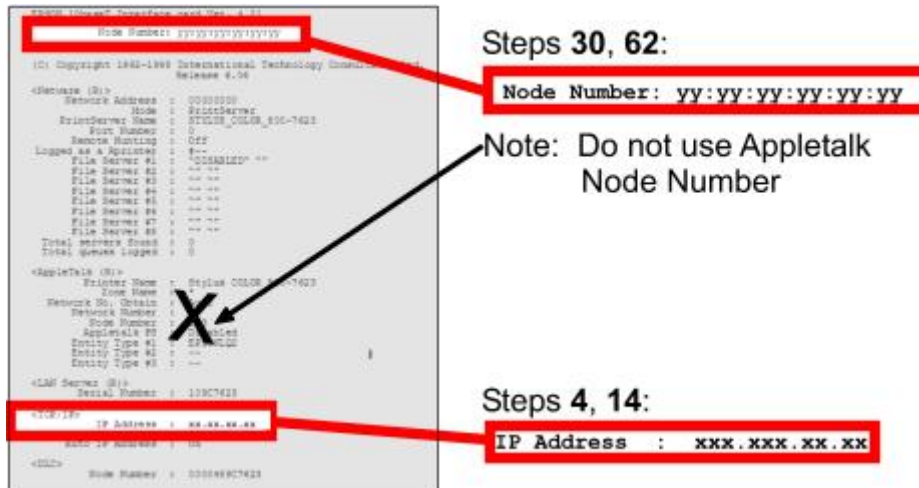

Figure 3.- Network Configuration Page (Example).
62. Circle Node Number on Network Configuration Page. Refer to Figure 3.
64. Verify IP address is 11.22.33.44 from bottom of "ISS - Post Transfer" Network Configuration Page. Refer to Figure 3.